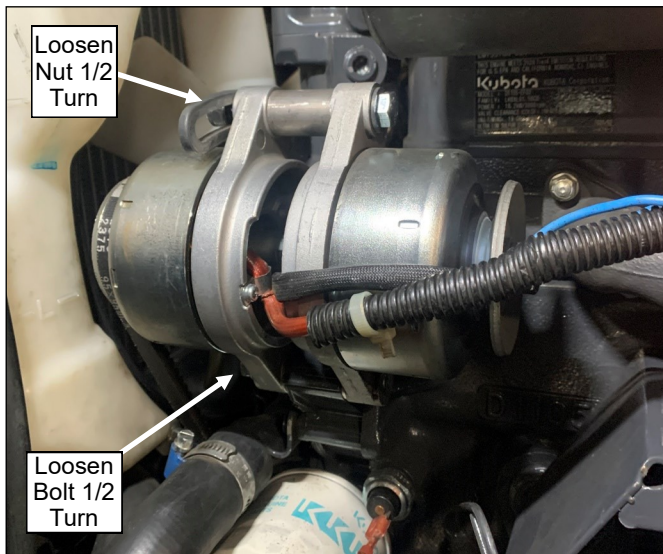

Fig. 12 (Loosen Hardware)
3. Loosen the bolt on the lower dynamo ear 1/2 turn. See fig. 12.
4. Loosen the nut on the upper dynamo ear 1/2 turn. See fig. 12.